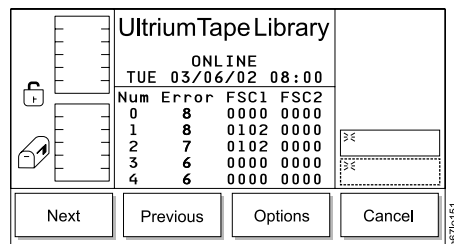

Figure 132. Drive Log Dialog
1. Specify the drive that you want by performing steps 1 through 5 in “Viewing the Drive’s Error Log” on page 122. The Drive Log Dialog displays (see Figure 132).